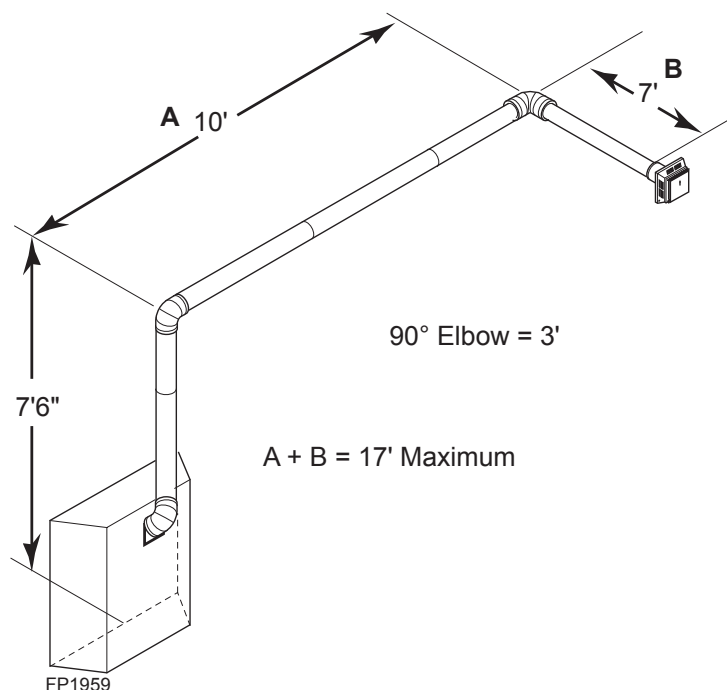

Figure 24 - Maximum Vent Run with Elbows
- If a 90° elbow is used in the horizontal vent run (level height maintained) the horizontal vent length is reduced by 36". *Figures 21 and 22, page 20.* This does not apply if the 90° elbows are used to increase or redirect a vertical rise. *Figure 24*